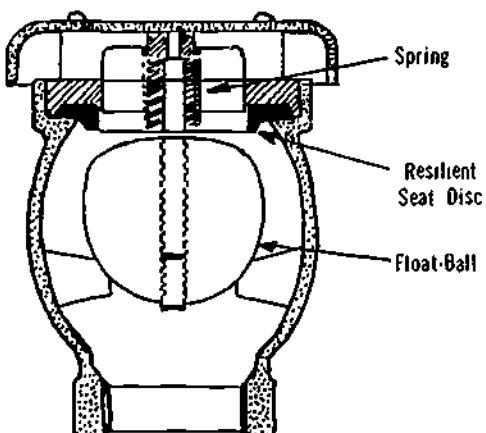

Figure 30-4. Pressure Type Vacuum Breaker
- Pressure Type Vacuum Breaker and Check Valve (Figure 30-4).